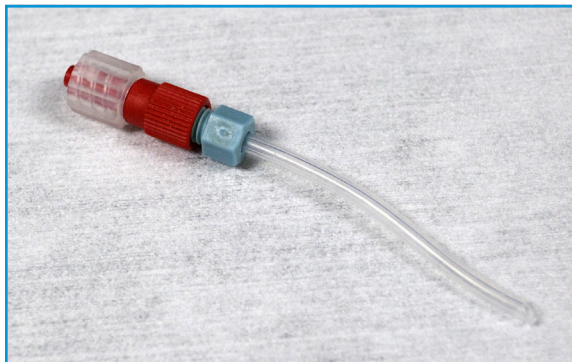

Figure 5-15: ESP access tube
2. Attach a clean access tube to the reagent intake line (see Figure 5-15).